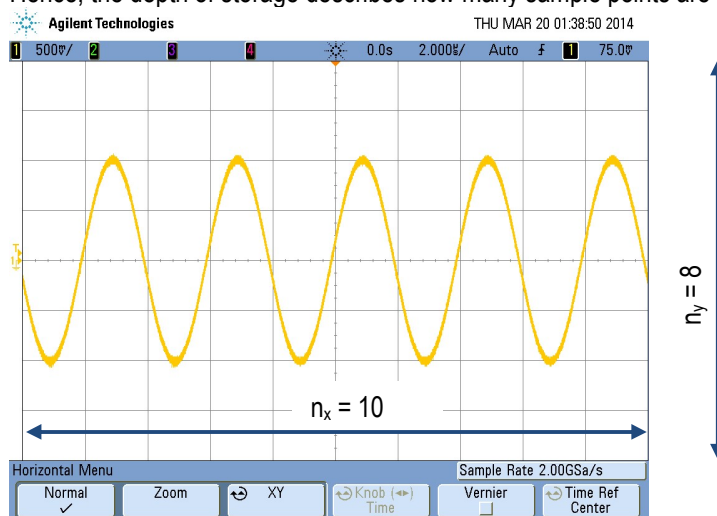

Fig. 1.1: DSO screenshot. $T_B = 2 \mu\text{s}/\text{DIV}$, $f_s = 2 \text{ GSa/s}$
A DSO samples signals with a given sampling rate f_s [unit: samples per second, Sa/s]. When the time base T_B of the DSO is changed, usually the sampling rate changes as well. The shorter the setting of the time base, the higher the sampling rate (until the maximum sampling rate is attained). A typical DSO screen consists of 10 divisions on the time axis (number of divisions $n_x = 10$, see fig. 1.1). To display the signal for the whole time displayed on the screen the sample points for all n_x divisions need to be stored in the oscilloscope, defining the depth of storage D_{ST} [kSa or MSa]. Hence, the depth of storage describes how many sample points are to be stored to display the full screen of the DSO.
An analogue to digital converter (ADC) converts analogue values into discrete quantization levels or increments. An 8 bit ADC provides $2^8 = 256$ quantization levels or increments. More precisely we have $2^8 - 1$ increments because the first level is zero. A DSO using an 8 bit ADC has 255 levels available to represent the voltage value for each channel of the DSO. On the voltage axis a typical DSO screen consists of 8 divisions (number of divisions $n_y = 8$, see fig. 1.1). The full range of voltage to be displayed on the n_y divisions needs to be represented by the 255 quantization levels. Hence, if the voltage sensitivity is set too low and the signal is represented by only a few divisions, only a part of the 255 increments is used to represent the signal. In this way we will lose resolution. To choose an appropriate setting of the voltage sensitivity we have to make sure that the signal uses as much of the screen as possible without being cut off by the limits of the screen.
- Calculate the depth of storage D_{ST} for the values given in fig. 1.1.